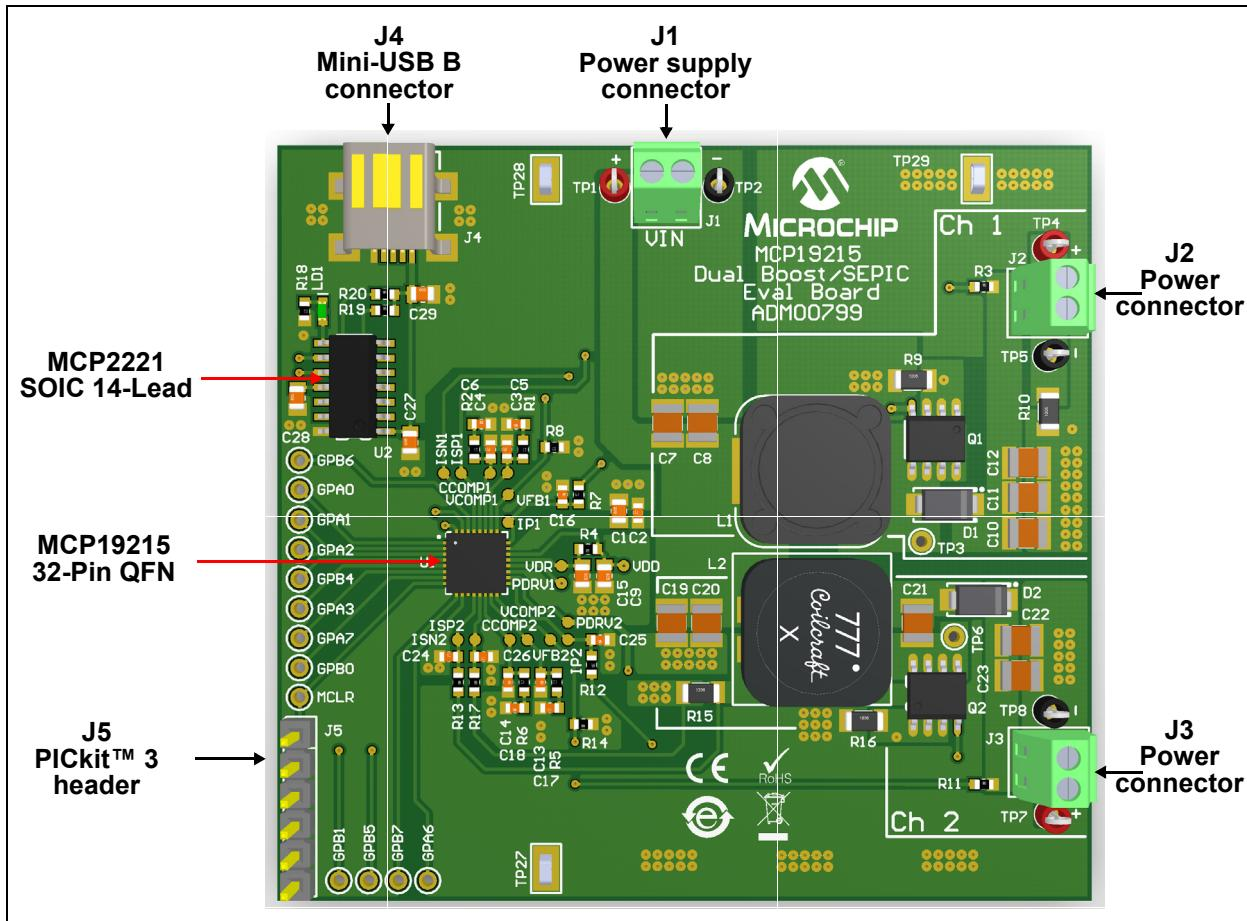

FIGURE 2-1: MCP19215 Dual Boost/SEPIC Evaluation Board – Top View.
Alternatively, users can program the MCP19215 using their own firmware, further tailoring it to the application, using the MPLAB® X Integrated Development Environment (IDE) and a PICkit™ 3 Programmer/Debugger on the J5 Header (see Figure 2-1).
1. connect the electronic load to the J2 and/or J3 connector on the board by observing the polarity; the positive (+) and negative (-) connector pins are marked on the board silkscreen (refer to Figure 2-1).
2. connect the adjustable DC power supply to the J1 connector on the board by matching the polarity to the positive (+) and negative (-) connector pins marked on the board silkscreen (refer to Figure 2-1).
- by the user's own software that can be loaded into the MCP19215 by connecting J5 on the board to a PICkit™3 or another suitable programming tool (see Figure 2-1).